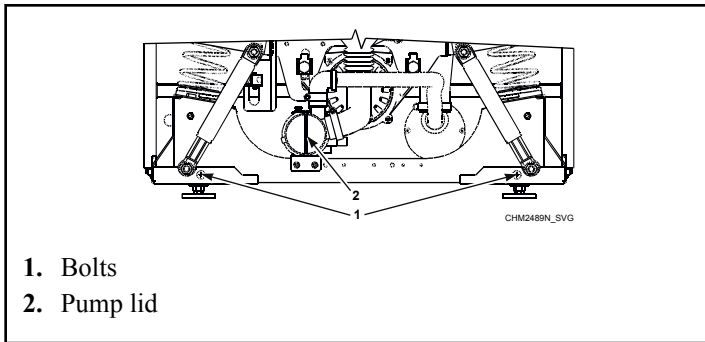

Figure 62
- c. Remove the front panel of cabinet by unlocking bolts. Refer to *Figure 62*.